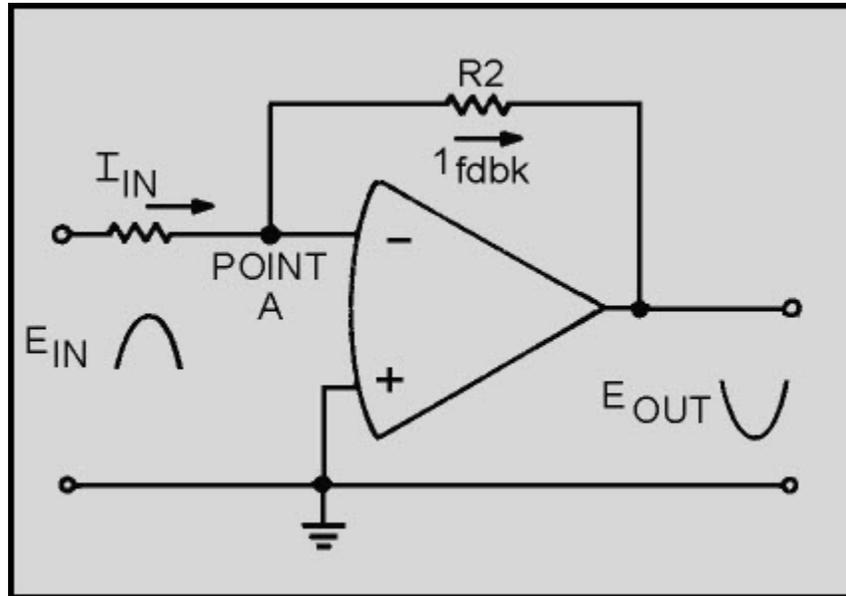

Figure 3-15 Current flow in the operational circuit
Given these conditions, the characteristics of this circuit are determined almost entirely by the values of R1 and R2. Figure 3-15 should help show how the values of R1 and R2 determine the circuit characteristics.
*Q-24. In a circuit such as that shown in figure 3-15, if  $R_1$  has a value of 100 ohms and  $R_2$  has a value of 1 kilohm and the input signal is at a value of + 5 millivolts, what is the value of the output signal?*